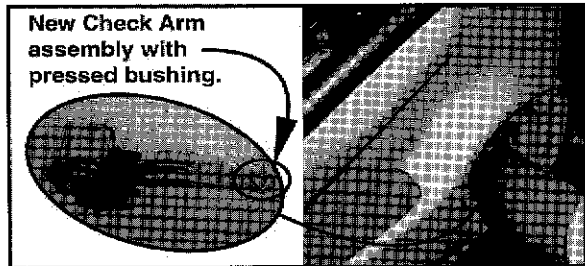

Figure 9
12. Install the new check arm assembly into place through the speaker opening. Reinstall the two Check Arm retaining nuts and tighten (torque: 5.1 lbs. ft. (6.9 NM) +/- 1.4 lbs. ft. (1.9 NM) (Figure 9).